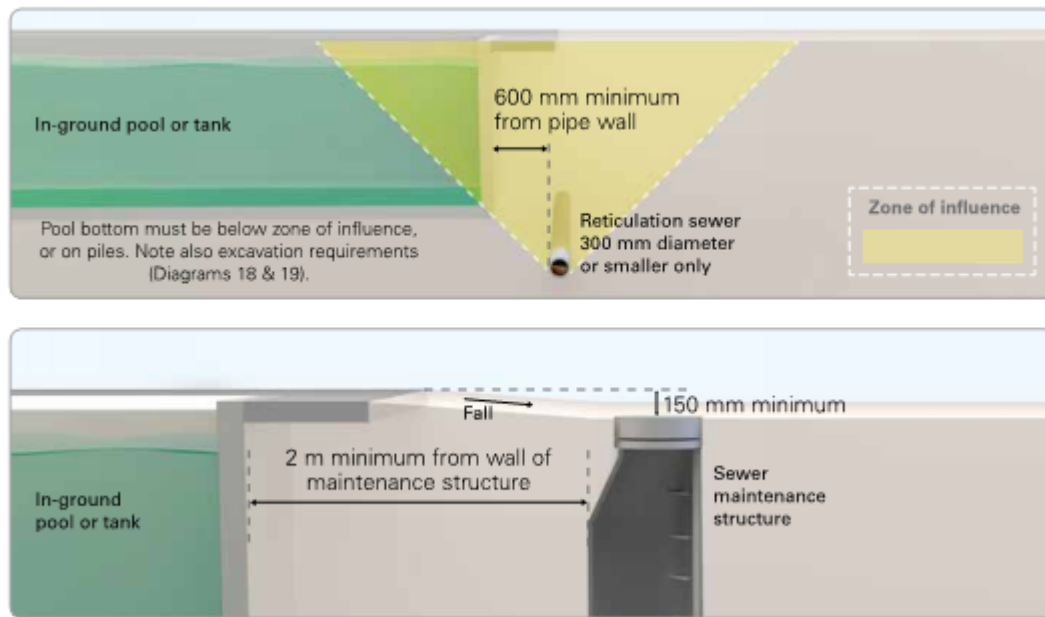

Figure 7-13 Diagram 13 of SWC BOA Pipe Assets
- An existing rainwater tank is located at the south western corner of the development (see civil drawing C01-41 and Figure 7-11). The tank location and layout has been estimated from RPS Australia existing services survey drawing No.PR140676. The dimensions and depths of the tank have been estimated from Issued For Construction drawings H-101 revision 3 by Warren Smith & Partners. The proposed sewer line is located at approximately 4m from the tank location and therefore satisfies the 600mm minimum clearance to tank wall as shown in Figure 7-13.
None of the existing Sydney Water assets are known to be affected by domestic swimming pools as per Figure 7-13 & 7-14 below.